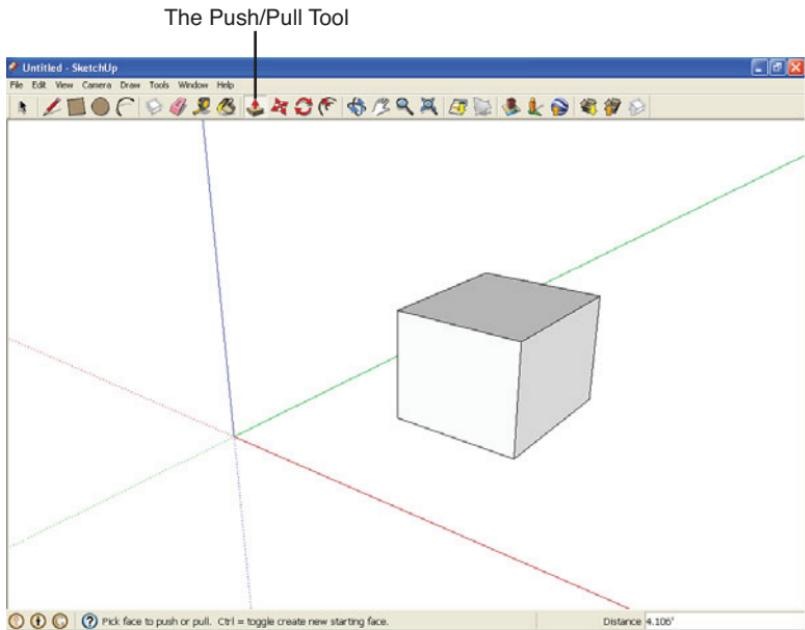

FIGURE 5.2 The Push/Pull tool and the resulting cube.
Now, what you really want is a cube, so to transform the rectangle, we'll use the Push/Pull tool, as shown in Figure 5.2.
When you use the Push/Pull tool (shown in Figure 5.2), you literally pull the rectangle into a 3D shape. This tool is at the center of what SketchUp does for you, so it's an important one to learn.
3. Click the **Push/Pull tool** in the toolbar (shown in Figure 5.2).
6. Release the mouse button. The object becomes 3D, as you can see in Figure 5.2. As you can see, pulling shapes into 3D is one the coolest features in SketchUp.